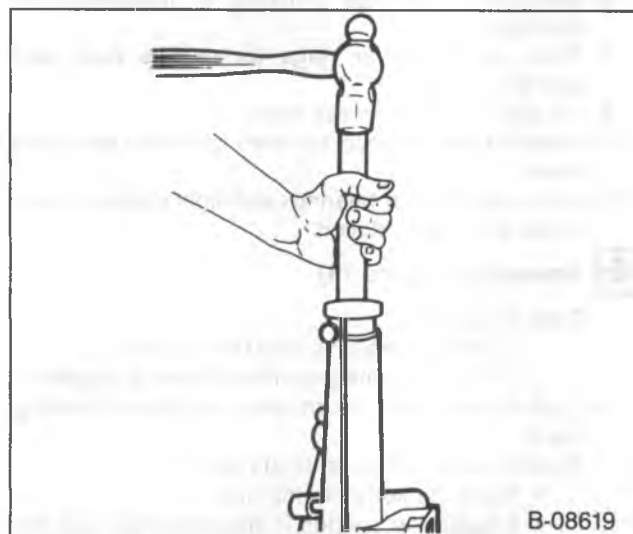
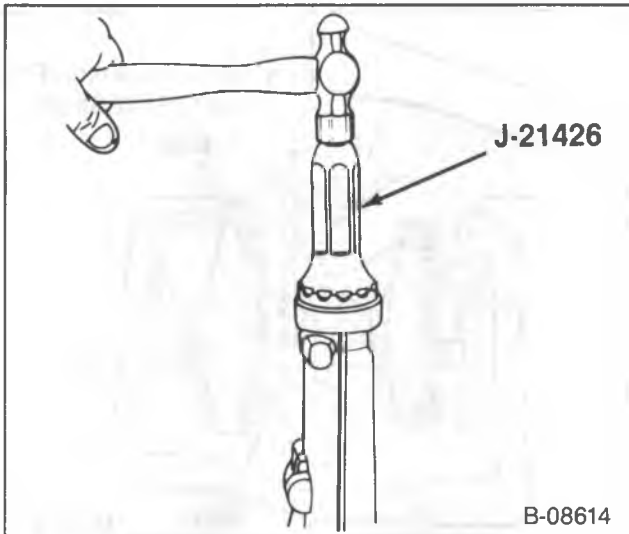

Figure 26—Installing the Extension Housing Bushing
Figure 27—Installing the Extension Housing Oil Seal
1. New bushing (680) if needed, using J 8092 and J 23062-14 (figure 26).
2. Locking compound on the outside of a new seal (681).
3. New seal (681) using J 21426 (figure 27).